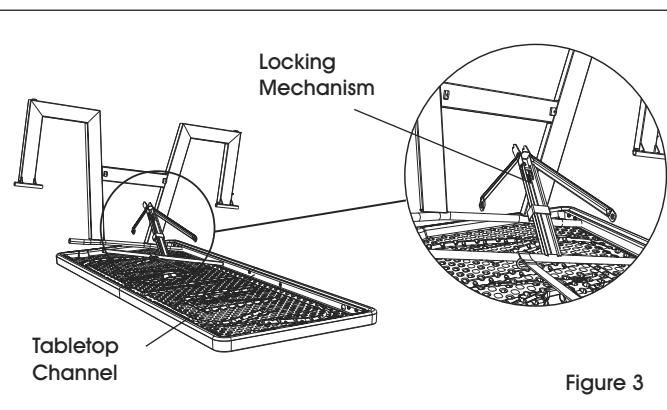

Figure 3
3. Insert a leg assembly and a leg brace assembly into the two large holes along the tabletop channel that is still connected to the tabletop. (See Figure 3)